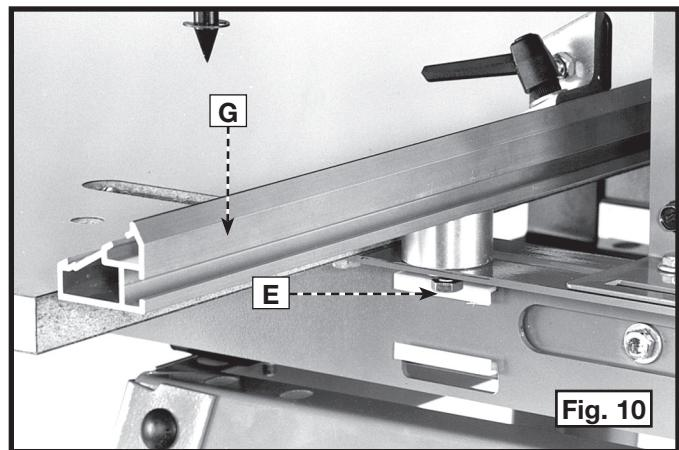
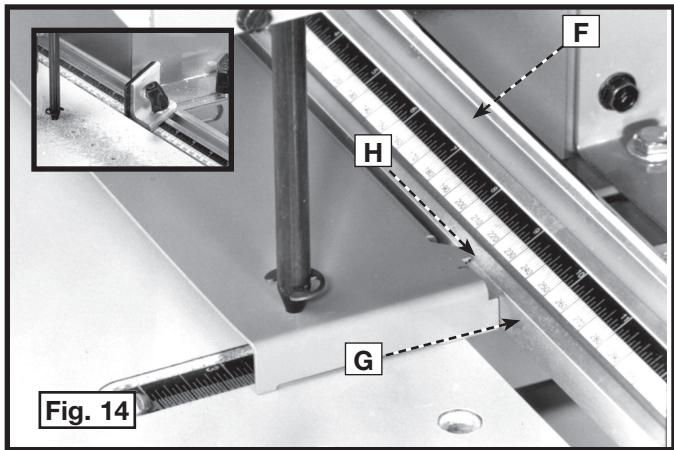

Fig. 10
Fig. 14
4. The fence (G), attached to the table bracket, is shown in Fig. 10.
6. Loosen the two screws (E) Fig. 10 that fasten the fence (F) Fig. 14 to the machine. Move the fence (F) until the front surface of the fence contacts the gauge at point (G) on each end of the gauge. Move the fence left or right until the right fence stop (set in **STEP 1** - see inset - Fig. 14) contacts the gauge at point (H) Fig. 14. Tighten the fence mounting hardware.